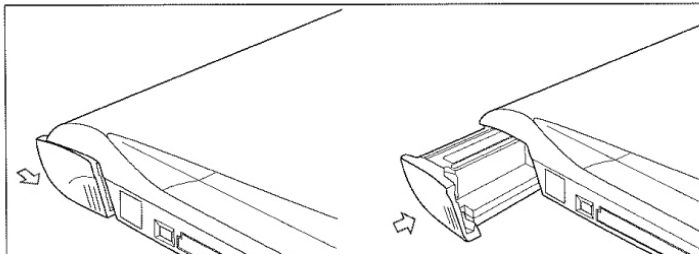

Figure 2: Inserting battery pack
2. Insert the battery pack into place (Figure 2).